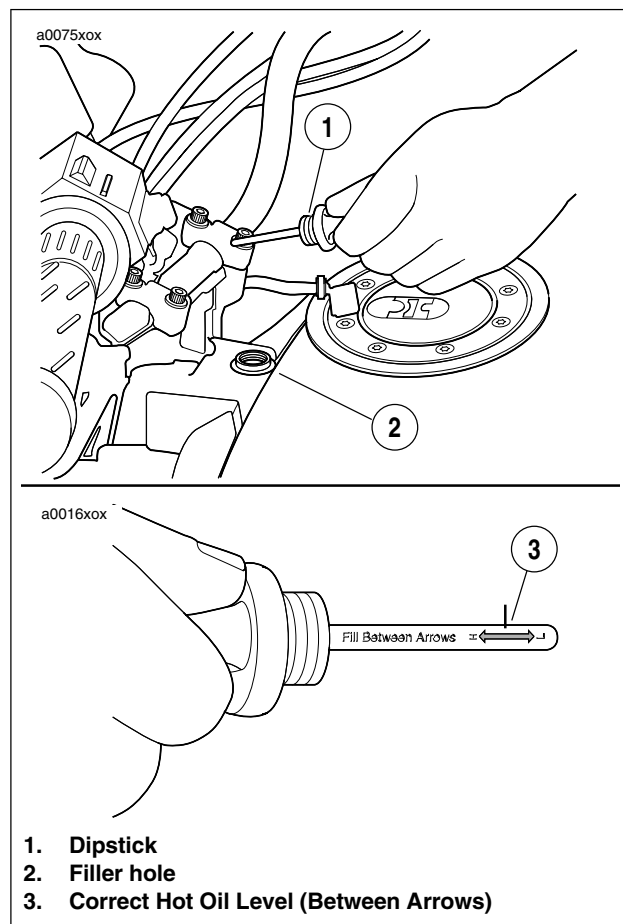

Figure 1-2. Dipstick Location/Engine Oil Level
2. See Figure 1-2. Unscrew dipstick from frame filler hole.
4. See Figure 1-2. Remove dipstick and note oil level.
12. See Figure 1-2. Remove dipstick and refill with approximately 1.5 qts (1,419.5 ml) recommended oil at filler hole. Refer to Table 1-3.